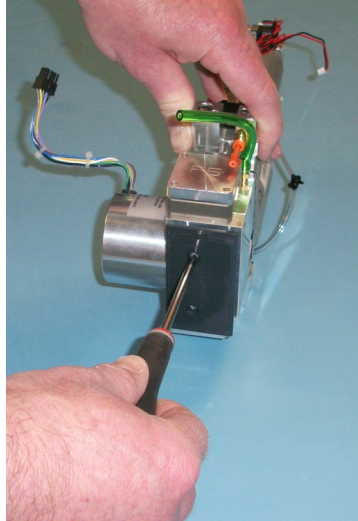

Figure 5.16
13. Remove the compressor plate by removing the two screws. (See Figure 5.16.)